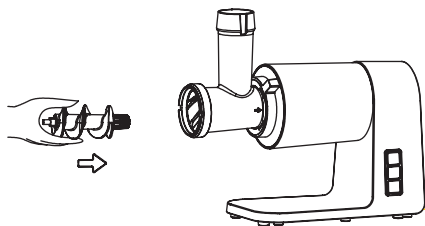

Figure 3.
2. Place the snake into the grinding head, long end first and turn to feed the screw slightly until it is set into the motor housing (fig. 3).